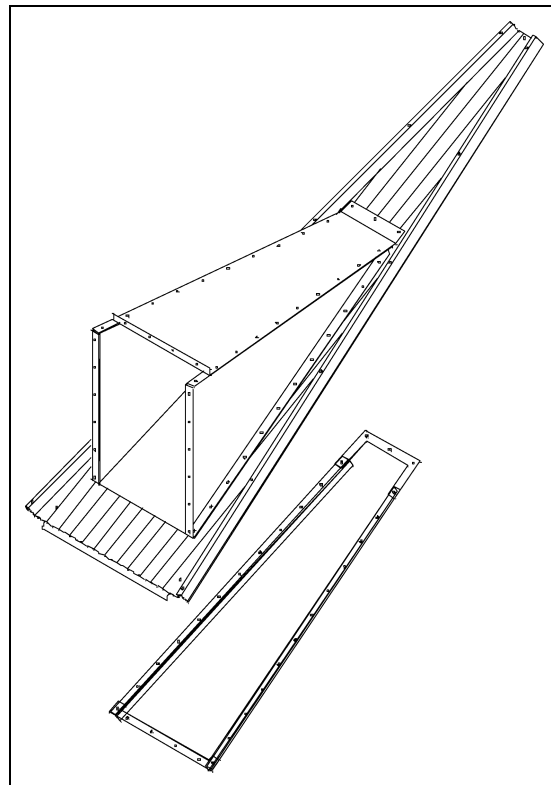

Figure 5G *The 24" Roof Fan Adaptor on Roof Sheet with Template Bolting Underneath.*
8. Bolt the adaptor section to the roof sheet along with the support angles MIS-6703 (template) under the roof sheet (*See Figure 5G*). Tighten the adaptor to the roof sheet with template bolts.